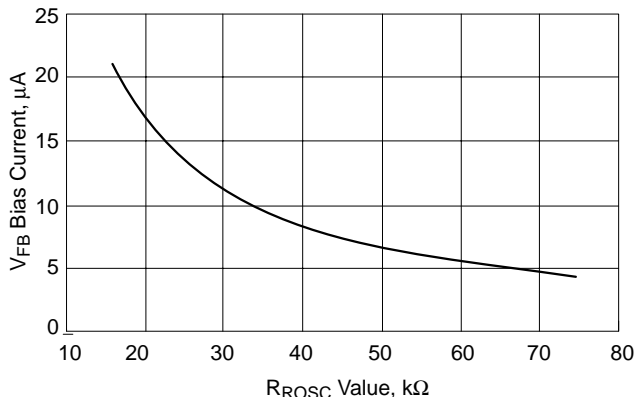

Figure 4. V_{FB} Bias Current vs. R_{ROSC} Value
2. The V_{FB} Bias Current changes with the value of R_{ROSC} per Figure 4.
To set the no-load positioning, a resistor (R_9) is placed between the output voltage and V_{FB} pin. The V_{FB} bias current will develop a voltage across the resistor to decrease the output voltage. The V_{FB} bias current is dependent on the value of R_{ROSC} , as shown in Figure 4.
See Figure 4 for V_{FB} Bias Current.